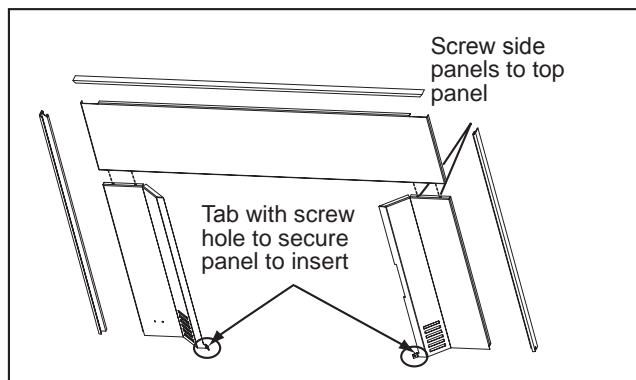

Figure 18.3
2. To assemble the trim, attach the 2 side trim pieces to the top trim at each corner using the "L" bracket included in fasteners package. **Figure 18.3**